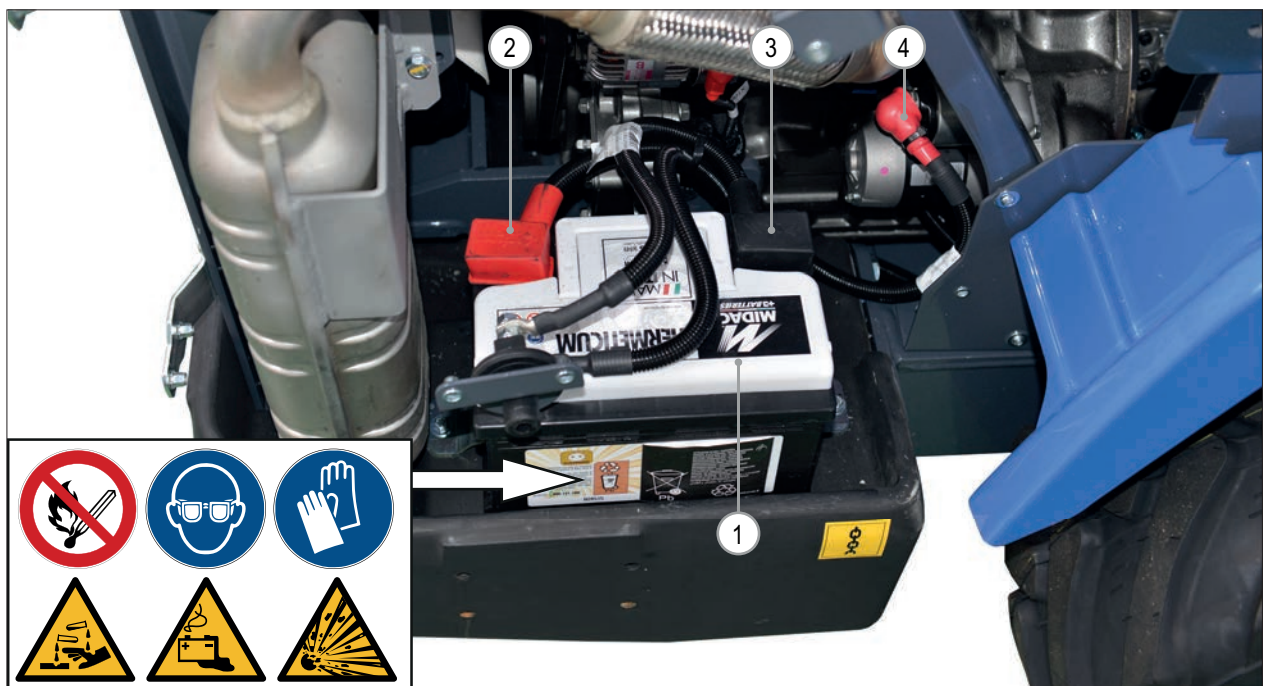

FIG. 45
- The battery (FIG. 45 - Ref. 1) is intact and not leaking.
- Check power cable connections (FIG. 45 - Ref. 2 - 3) for signs of leaking, corrosion, or damage.